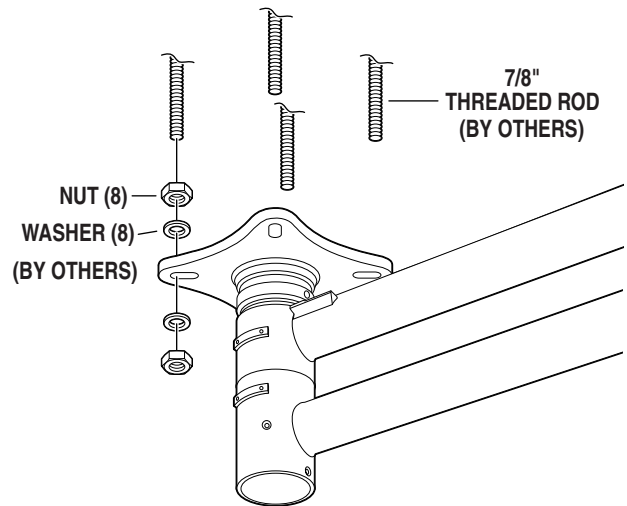

Figure 2. Mounting Hub Installation
b. Install the Radial Arm and Mounting Hub assembly on the threaded rods between jam nuts. The LFS hub should be 1-1/4" off the finished ceiling (measured from the bottom of the plate) and accurately leveled, within 0.1 degree, using a digital level. Tighten the jam nuts securely. The LFSLFS hub should be flush with the ceiling. See figure 2.